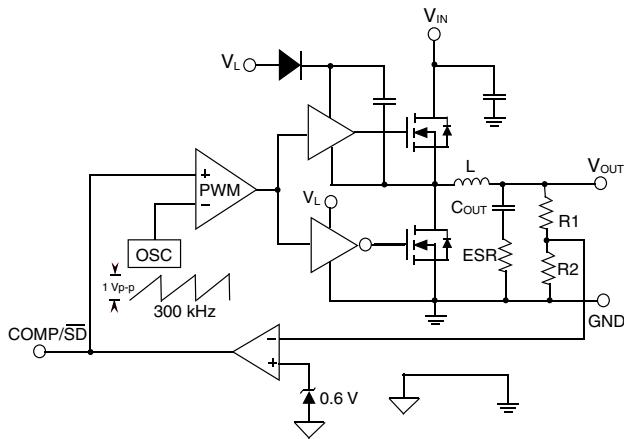
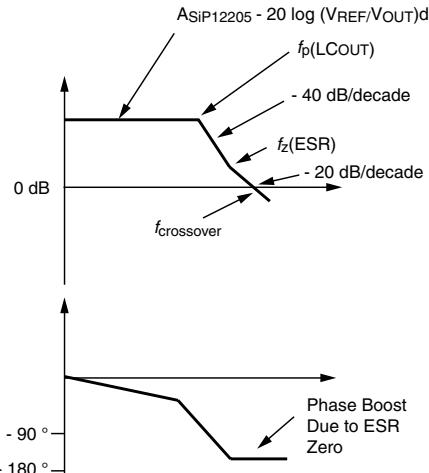

Figure 8a.
Figure 8b.
4. Combine the SiP12205 controller with open loop of the LC filter + output voltage sampling divider. The open loop gain shift up due to the active device of SiP12205. The close loop system and its related Bode Plot are illustrated in Figure 8a and Figure 8b.